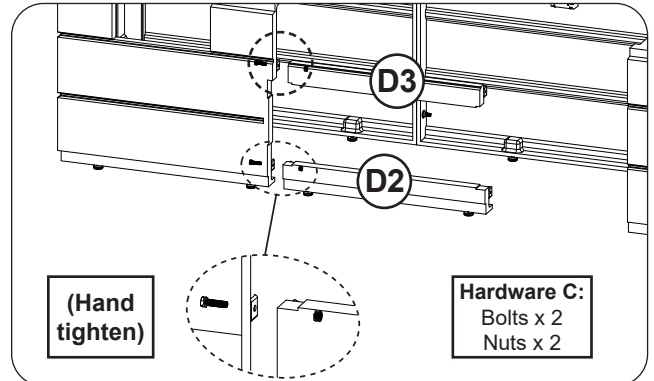

Fig. 9-2 Assemble top and bottom beams
2. Position the bottom beam (D2) as shown. Carefully align the pilot holes, and insert the hardware (hardware kit C) in the order shown. Hand tighten only. See Fig. 9-2.
3. Position the top beam (D3) and repeat the hardware installation process (hardware kit C). Hand tighten only. See Fig. 9-2.